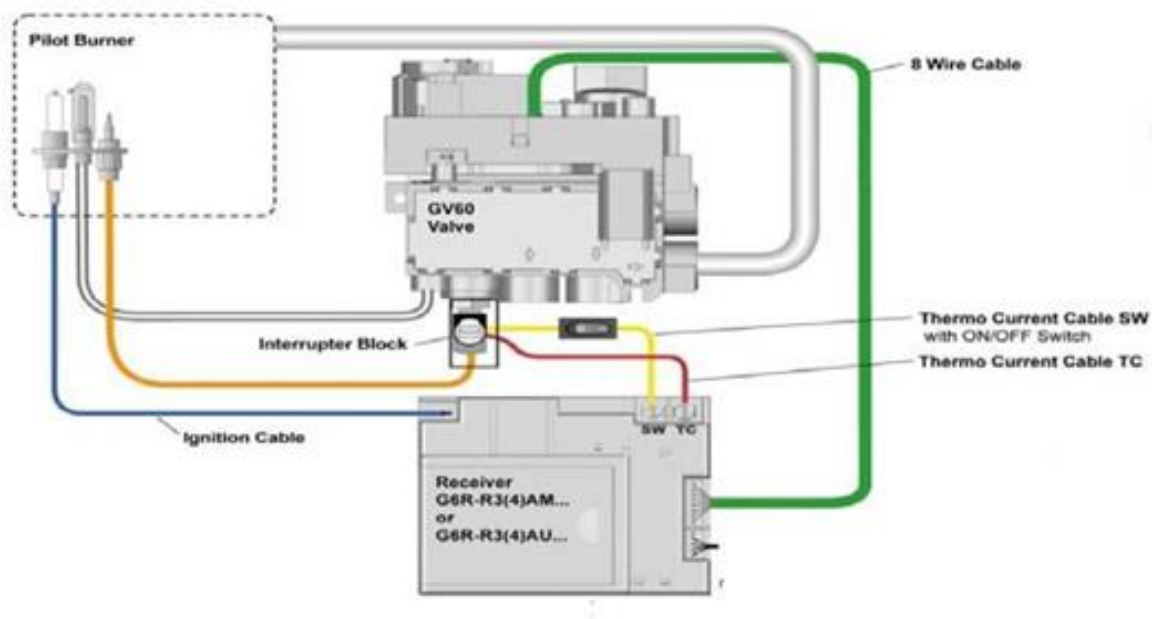

Figure 7: Valve/Receiver Wires and Interrupter Block
6. Verify that all wire connections are tight. Then, check that the interrupter block is screwed in tightly but not too tightly (tightening the interrupter block too much will break it). Refer to Figure 7 on page 97 for details.
- b) Disconnect the wire for the spark wire. Refer to Figure 7 on page 97 for details.
Perform these steps to check the thermocouple. Refer to Figure 7 on page 97 for details.